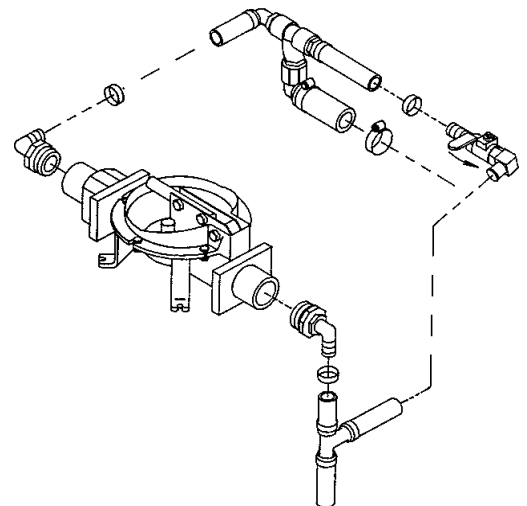

FIGURE 1
4. To flush aircraft toilet, the three-way ball valve on the fill pump must have its handle towards the hand pump as shown in **Figure 1** below. Follow aircraft manufacturer's requirements for flushing. Six (6) strokes of fill pump will deliver one (1) gallon.